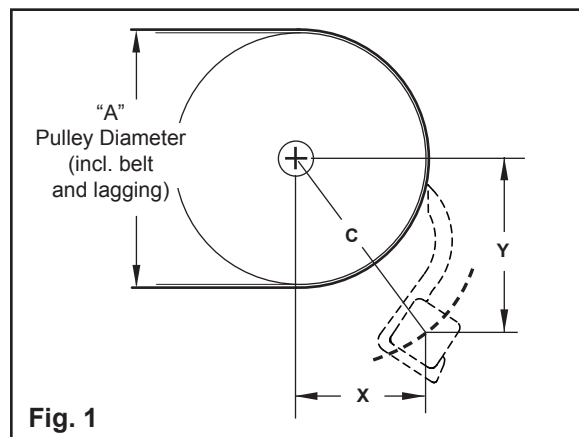

Fig. 1
3. Trial fit the FGP-ES with the blade positioned per Fig. 1. Establish acceptable mounting plate positions on each side of the conveyor, clamp in place if necessary, and mark holes for drilling. A minimum of 3 mounting bolts is required for each mounting plate. Drill mounting holes and assemble FGP-ES in position as described in Section 4 - Installation Instructions.